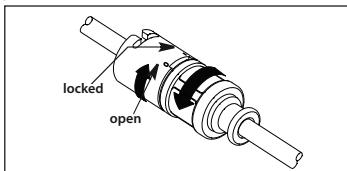

Figure 3
- If using a catheter contamination shield with TwistLock™ adapter (where provided), ensure double TwistLock™ of catheter contamination shield is fully opened (refer to Figure 3).